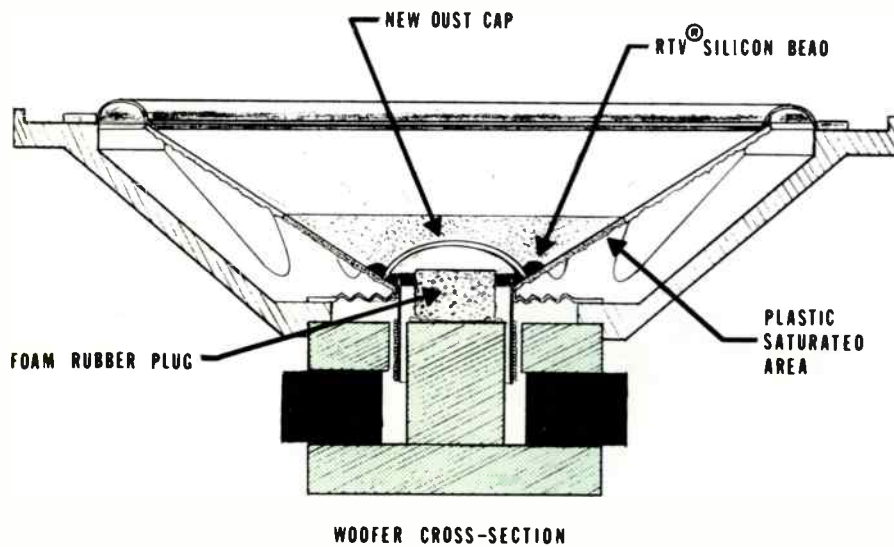

FIGURE 2: Resonances are controlled with new dust cap and foam plug in voice coil chamber.
to a diameter of 1/4" less than the inside diameter of the voice coil form and as long as possible, allowing clearance between it and the new dust cap with the cone bottomed out. (See Fig. 2) Foam that is used for making pillows and cushions found in fabric shops is suitable. The foam plug "stuffs" the chamber like a miniature enclosure eliminating a major source of ringing.
f. Set the new dust cap in a bead (1/4" in cross-section) of GE RTV⁸ silicon rubber.⁸ Let cure overnight or 12 hours. The silicone rubber dampens resonances at the apex of the speaker cone (see Fig. 2).